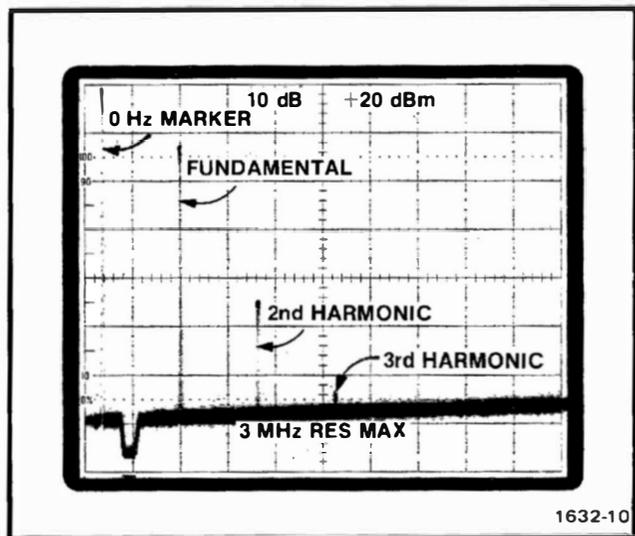

Fig. 2-3. Display of 245 MHz signal and harmonics.
d. Rotate the SG 504 COARSE control until the dial tape indicates 245 at the cursor line. Position the zero frequency marker to the left edge of the graticule with the spectrum analyzer position control. A display similar to Fig. 2-3 should be obtained.